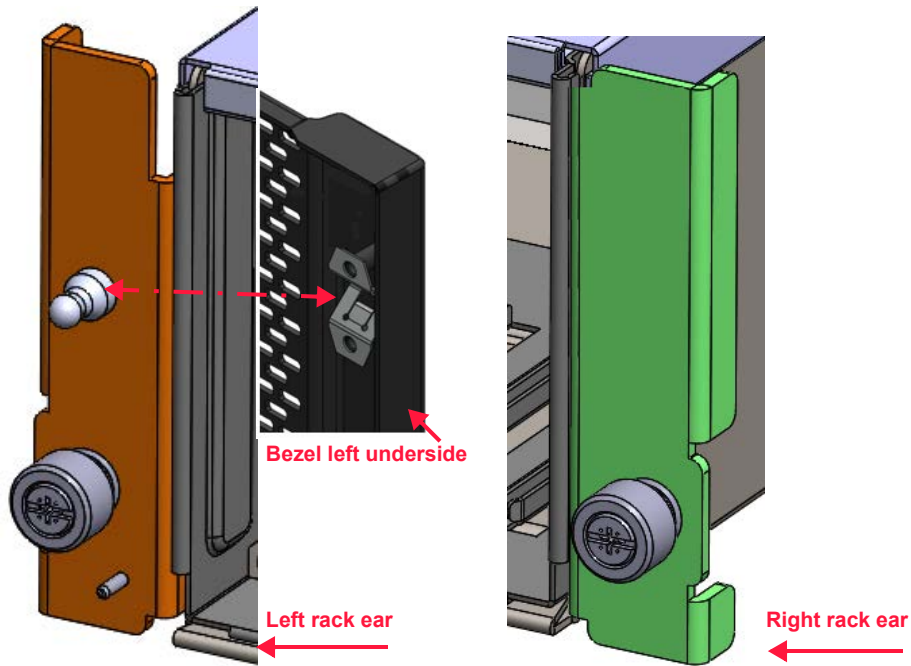

Figure 8.3 Bezel removal
1. Slowly pull the bezel partially out of the left side of the left rack ear. The stud will release from the retention clip inside the left side of the bezel cover. Refer to Figure 8.3 on page 96.
2. Slide the two retention tabs out of the slots in the top of the right rack ear identified in Figure 8.3.